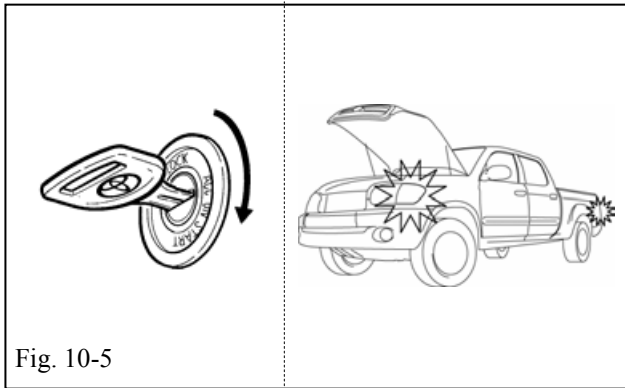

Fig. 10-5
- (f) Start the Engine. (Fig. 10-5)
- (g) After 10 seconds stop the Engine (Fig. 10-5)
- (1) The hazard lights flash 1 time.